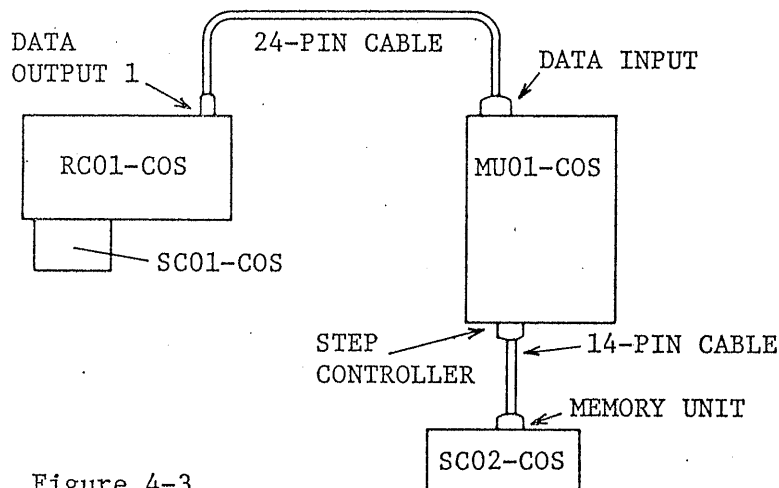

Figure 4-3
This device by itself cannot write data in its memory. Data should be sent from Remote Controller RC01-COS or transferred from other Memory Unit MU01-COS. Inter-device connections for writing data are shown in Figure 4-3. Data being written can be monitored by connecting Programmable Oscilloscope COS5030-PG to the DATA OUTPUT connector of this device. If another Memory Unit MU01-COS is connected to the DATA OUTPUT connector, the same data can be written in it also simultaneously.
- (1) Turn off the power switches of the devices and connect them with inter-device connection cables as shown in Figure 4-3.
- (2) Set the READ/WRITE selector switch of Memory Unit in the READ state and then turn on the power switch.
- (3) Set the start and end steps with the START and END digital switches, respectively.